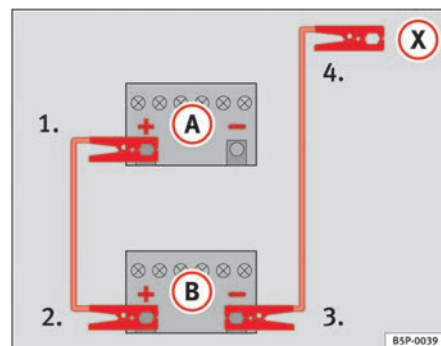

Fig. 202 How to connect the jump leads
In ⇒ fig. 202, the flat battery is **A** and the charged battery **B**.
- 1. Connect one end of the red jump lead to the positive ⇒ fig. 202 **+** terminal of the vehicle with the flat battery ⇒ ⚠.